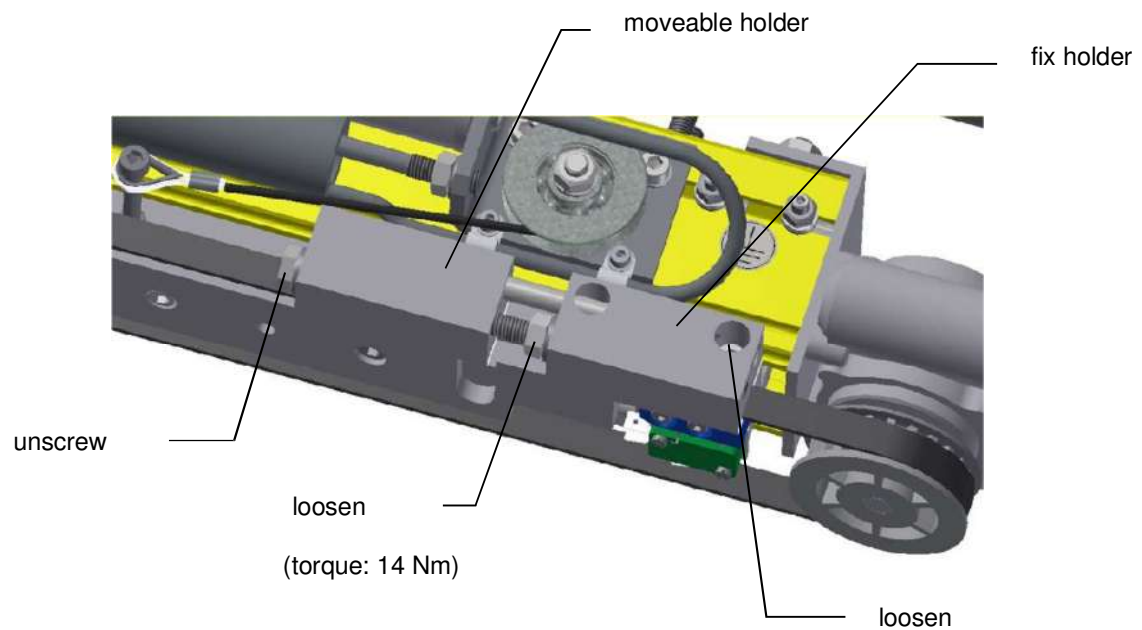

Figure 20: Tensioning device
- 1) Loosen the counter nut on the tensioning device (Figure 20)
- 4) Loosen the fix belt holder until the belt can be removed (Figure 20)